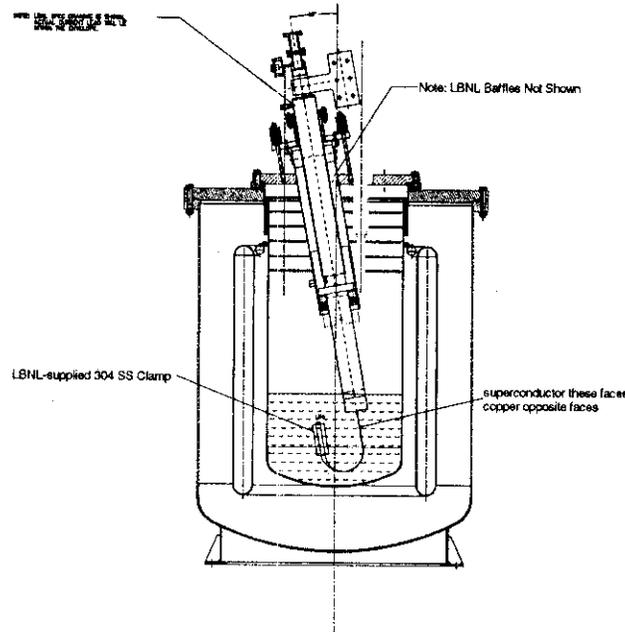

Figure 4.3a Side View of Lead in Cryostat with the LTS cables connected.
4.3 Make connection to LTS pigtails. The joint is a mechanical connection with a stainless steel clamp block (supplied by LBNL) and indium foil between the cables to ensure good electrical contact. Torque each of the clamp block fasteners to **10 ft-lbf**. Figure 4.3a shows a rendition of